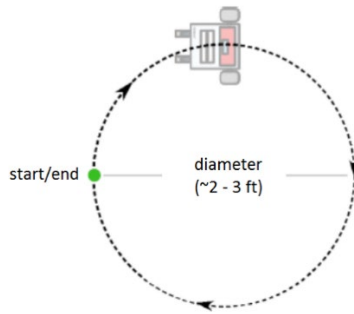

Figure 8: Circle Robot Motion
Part 7 – Circle and Figure 8 – DEMO DUE IN ONE WEEK
1. Write a “*moveCircle()*” function to move the robot in a circle with the diameter and direction as the input (see Figure 8). You should call the *moveCircle()* function from the *loop()* function. Turn on the RED LED when the robot is moving in a circle. **The circle diameter is measured from the center of the robot halfway between the wheels.**
4. Try to adjust the code so that the robot passes through the same center point of the figure 8 each time. You should call the `moveCircle()` function twice to create the `moveFigure8()` function. This means you may need to modify the `moveCircle()` function pass it a direction variable. You should call the `moveFigure8()` function from the `loop()` function. Turn on the RED LED and YELLOW LED when the robot is moving in a figure 8.
- Use the reference frame shown in Figure 8 for the *goToGoal()* behavior.